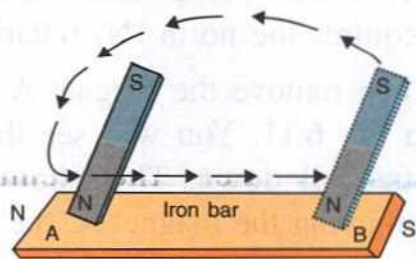

Fig. 6.13 Single touch method
Place an iron bar (or the needle) AB on a table. Take a bar magnet NS and place it almost vertical with its north pole (N) on the end A of the bar, as shown in Fig. 6.13.
Move the magnet along the iron bar till the other end B is reached, as shown in Fig. 6.13 by dotted lines.